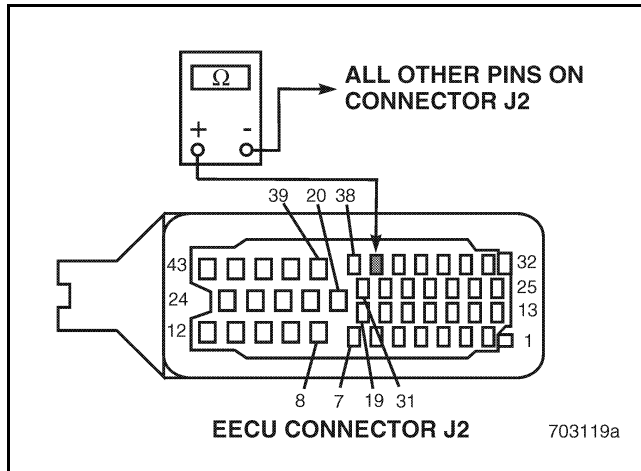

Figure 327
4. Check for continuity between EECU harness connector J2 pin 37 (ground line) and all other pins in EECU harness connector J2 (see Figure 327).